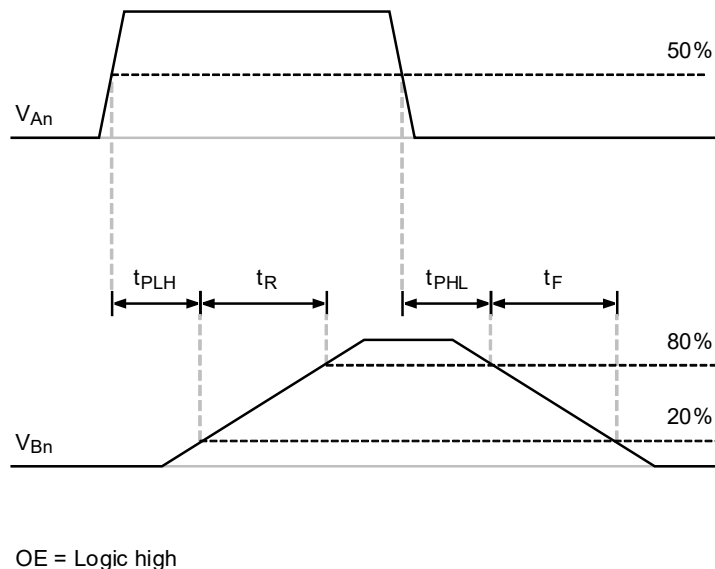

Figure 26. Turn ON and Turn OFF Timing
- Turn ON propagation delay is measured from the time the input (An or OE) is 50% ON to the time the output (Bn) is 20% ON and rising. See Figure 26 below for measurement details.
- Turn OFF propagation delay is measured from the time the input (An or OE) is 50% ON to the time the output (Bn) is 80% ON and falling. See Figure 26 below for measurement details.
- Output rise time is measured from the time the output is 20% ON to the time the output is 80% ON. For sinking output devices (Si8341x), rise time is determined by load conditions. See Figure 26 below for measurement details.
- Output fall time is measured from the time the output is 80% ON to the time the output is 20% ON. For sourcing output devices (Si8340x), fall time is determined by load conditions. See Figure 26 below for measurement details.